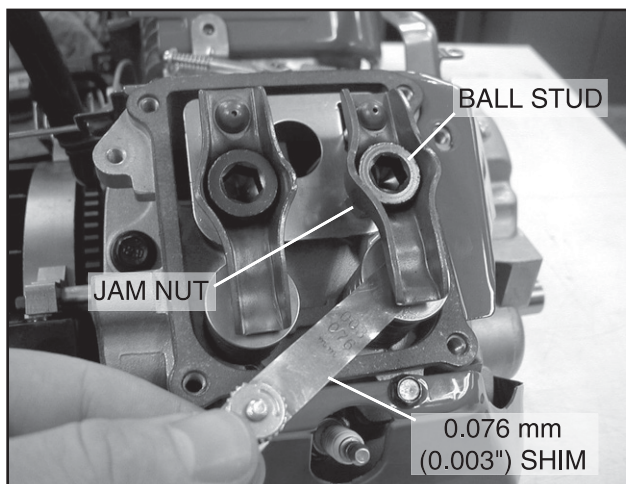

Figure 29
- Loosen the rocker arm jam nut. Use a 10mm allen wrench to turn the pivot ball stud and check the clearance between the rocker arm and the valve stem with a flat feeler gauge (see Figure 29).
- Re-install the rocker cover gasket, rocker cover and the four (4) screws.